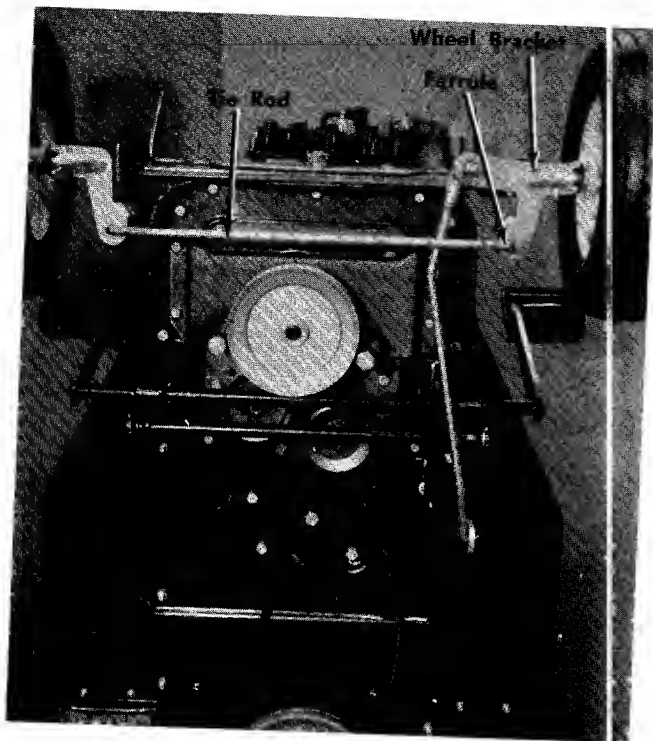

FIGURE 37.
The caster (forward slant of the king pin) and the camber (tilt of the wheels out at the top) require no adjustment. Automotive steering principles have been used to determine the caster and camber on the mower. The front wheels should toe-in 1/8 inch. See figure 37. To adjust, follow these steps:
1. Remove the cotter pin holding the ferrule to the axle bracket. See figure 37.